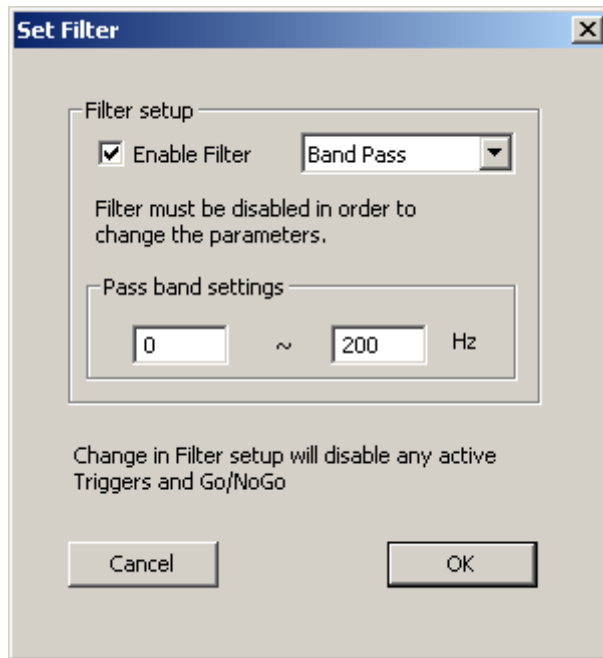

Figure 4.16: Set Filter dialog
1. Choose the menu item **Settings > Set Filter**. The Set Filter dialog is displayed (see Figure 4.16).